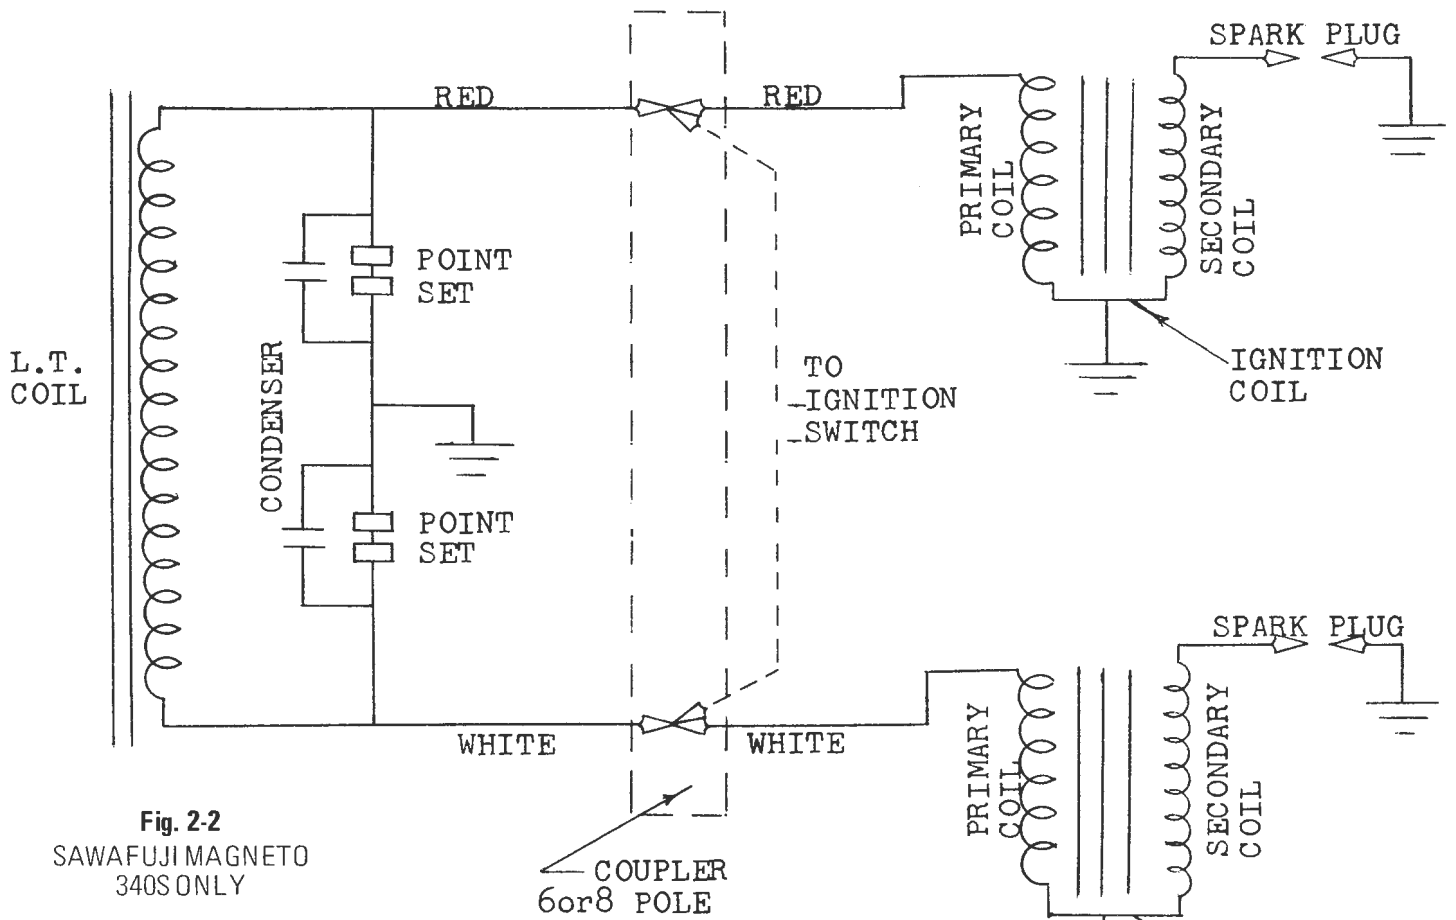

Fig. 2-2
2.3.2.1 Sawafuji Ignition (See Figure 2-2)
2.3.3 Operation (See Figures 2-2 and 2-3)